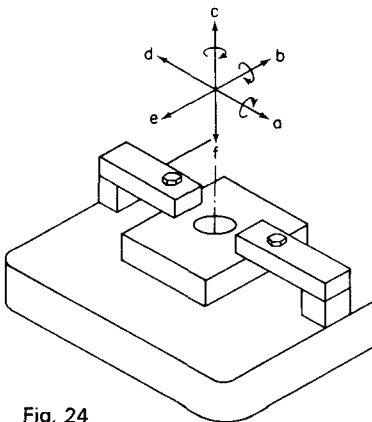

Fig. 24
89. Fig. 24 shows the clamping used whilst drilling a hole. The work is prevented from moving in any of the directions marked a, b, c, d, e and f by either friction or a positive restraint. Which of the following movements is restrained by friction?